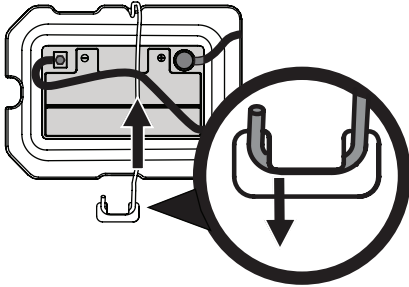

Figure 22
NOTE: Wiring harness should lay on top of battery hold down rod, otherwise damage to the wiring harness may result. See Figure 22 on page 14.
3. Remove the battery hold down rod by pushing the hooked end out of the tab on the fender to the right side of the battery. Then flip the battery hold down rod up to free the battery. See Figure 22.